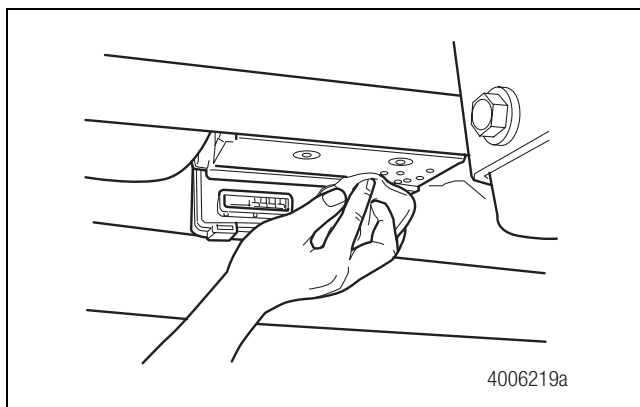

Figure 4.28
12. Use denatured alcohol and lint-free rags to clean the valve mounting surface. Ensure there is no rubber sticking to the HCU. Do not allow rubber or other debris to fall into the HPB bore holes. Figure 4.28.